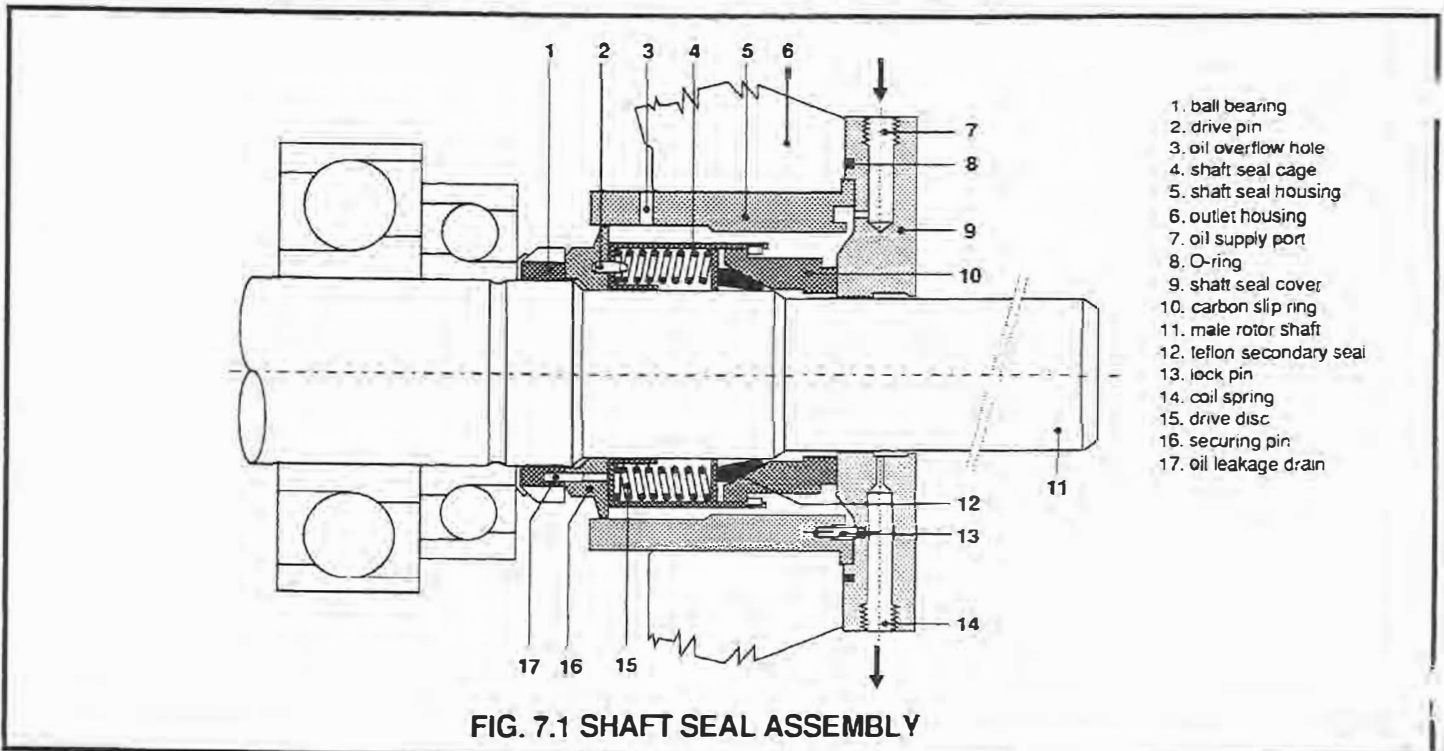

FIG. 7.1 SHAFT SEAL ASSEMBLY
7.5 SHAFT SEAL REPLACEMENT (refer to fig. 7.1)